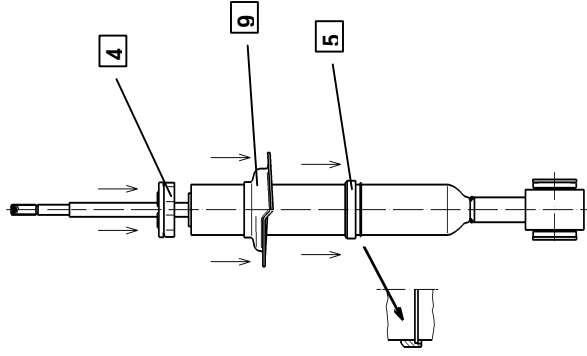

Figure 2
- B. Remove shock and spring unit from vehicle, following all procedures in the vehicle manufacturer's service manual. Note position of studs in upper mount (6) relative to lower mount bearing (for re-assembly).
- D. Refer to Figure 1 to identify which original parts must be re-used. (Refer to Figure 2):
- E. Install spring seat holder (5) onto shock body (tapered side towards top. Make sure the spring seat holder fits squarely over the circlip on the shock body.
- F. Install original spring seat (9) onto shock, over spring seat holder (5)